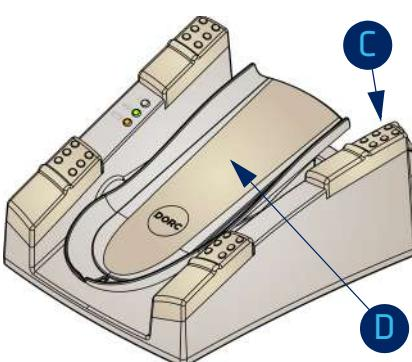

Fig. 11: Interruptor de pedal principal
6. Interruptor de pedal principal (fig. 11)